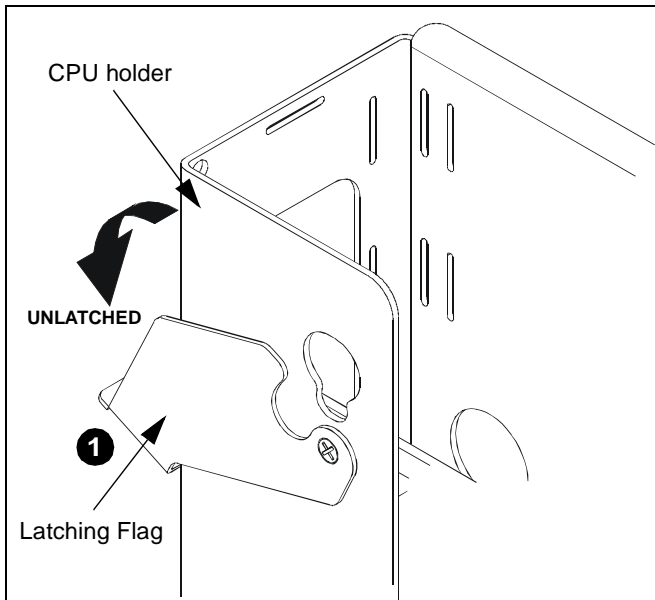

Figure 4:
1. Make sure latching flag is in the UNLATCHED position (See Figure 4).